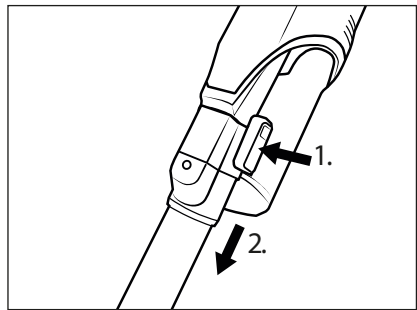

Fig. 11
- ◆ To remove the suction pipe **24** from the appliance, hold down the suction pipe release button **25** and pull the suction pipe **24** off the suction opening of the appliance (see Fig. 11).